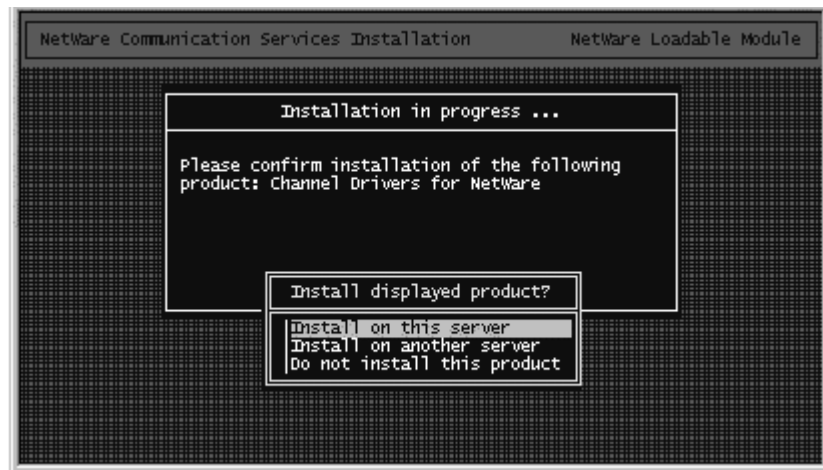

Figure 3-28. Installation Confirmation
6. A window (Figure 3-28) will appear asking for installation confirmation. Several installation options will be presented. The option to install on the current server will be highlighted. Press the **ENTER** key to accept the option to "**Install on this server**".
- A window (Figure 3-28) will appear asking for installation confirmation. Several installation options will be presented. The option to install on the current server will be highlighted. Press the **ENTER** key to accept the option to "**Install on this server**".